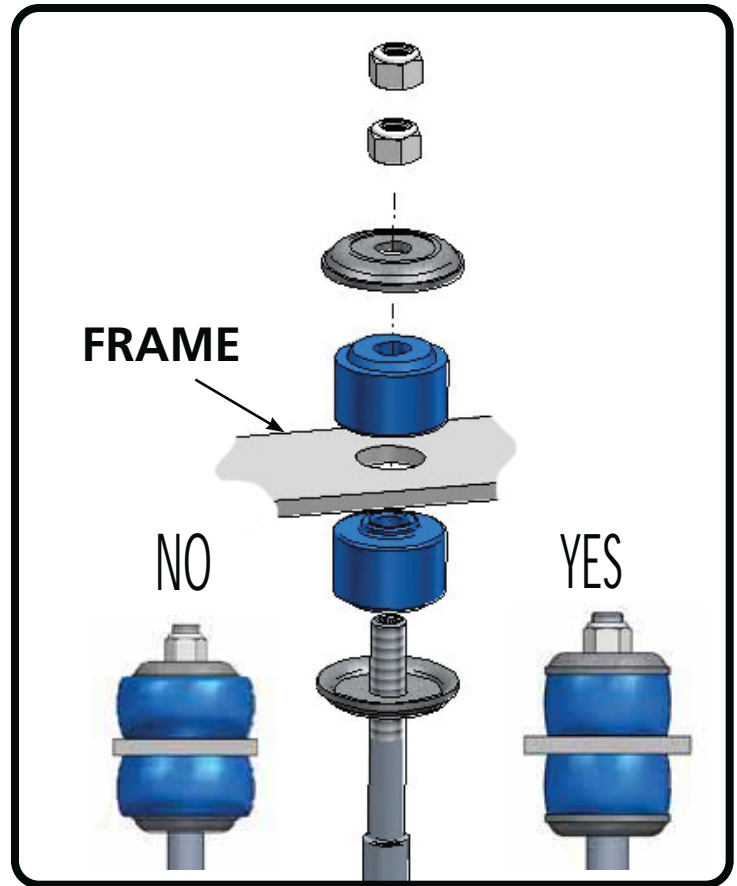

Figure 1
2. Install a Bushing Support Washer onto the shock stud followed by a Shock Stem Bushing (Figure 1).
**NOTE:** The Bushing should be tight, but not to the point that the bushing is bulging past the Support Washer (Figure 1).